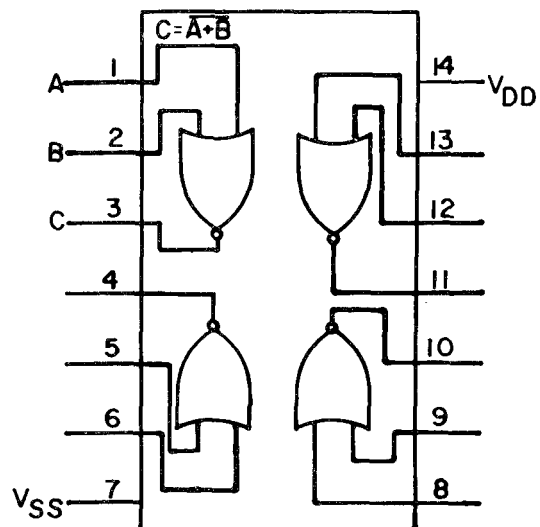

Figure 1-27. Quad 2 Input NOR Gate.
1. *Quad 2-Input NOR Gate (CD4001A).* If one or both inputs of a single gate (fig. 1-27) are at the 1 logic level, the output will be at the 0 logic level. If both inputs are at the 0 logic level, the output will be at the 1 level. The input and output relationships of a NOR gate are expressed in "truth" table 1-1.